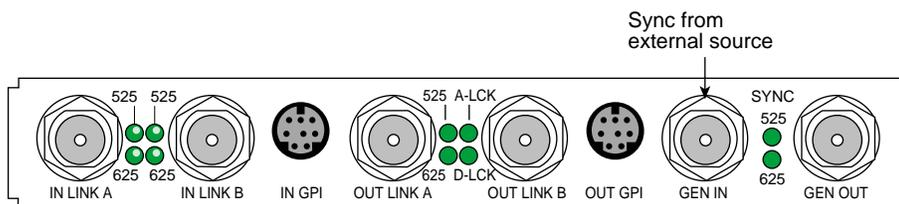

Figure C-5 GEN IN Port on the DIVO I/O Panel
- the **GEN IN** BNC on the I/O panel, as diagrammed in Figure C-5.